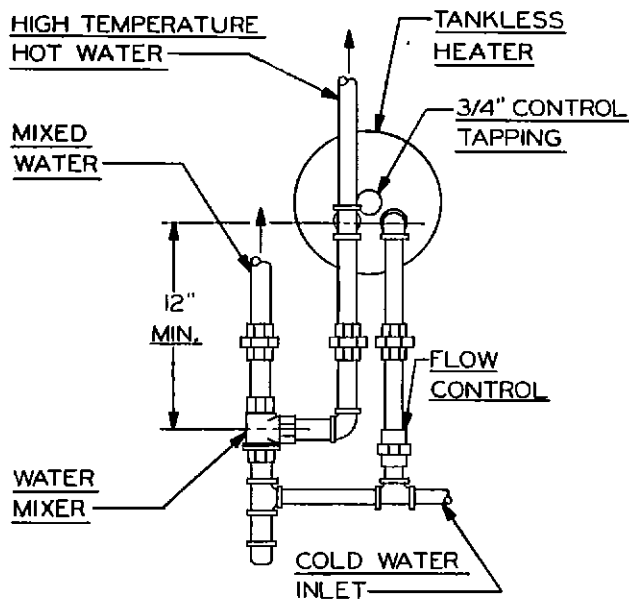

Figure 1
Install Water Heater (13) when required, in large opening in front of boiler. See Figure 1 for suggested piping.
Caution: Water mixing valve should always be installed in the hot water supply to prevent injury, see Figures 1 and 1A.